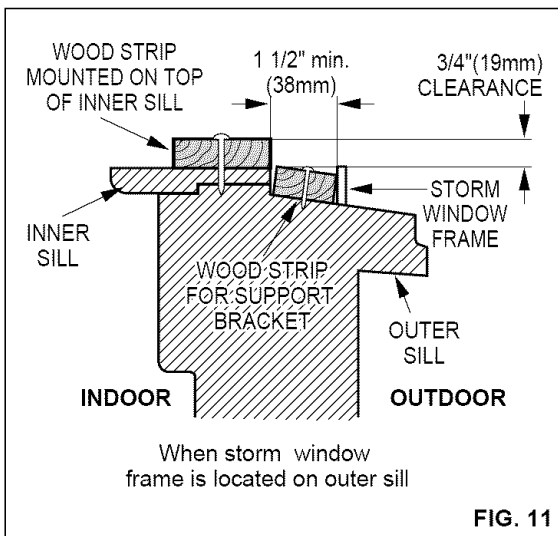

FIG. 11
- If storm window presents interference, fasten a 2" wide wood strip to the inner window sill across the full width of the sill. The wood strip should be thick enough to raise the height of the window sill so that the unit can be installed without interference from the storm window frame. See FIG. 11. Top of wood strip should be approximately 3/4" higher than the storm window frame to help condensation to drain properly to the outside.